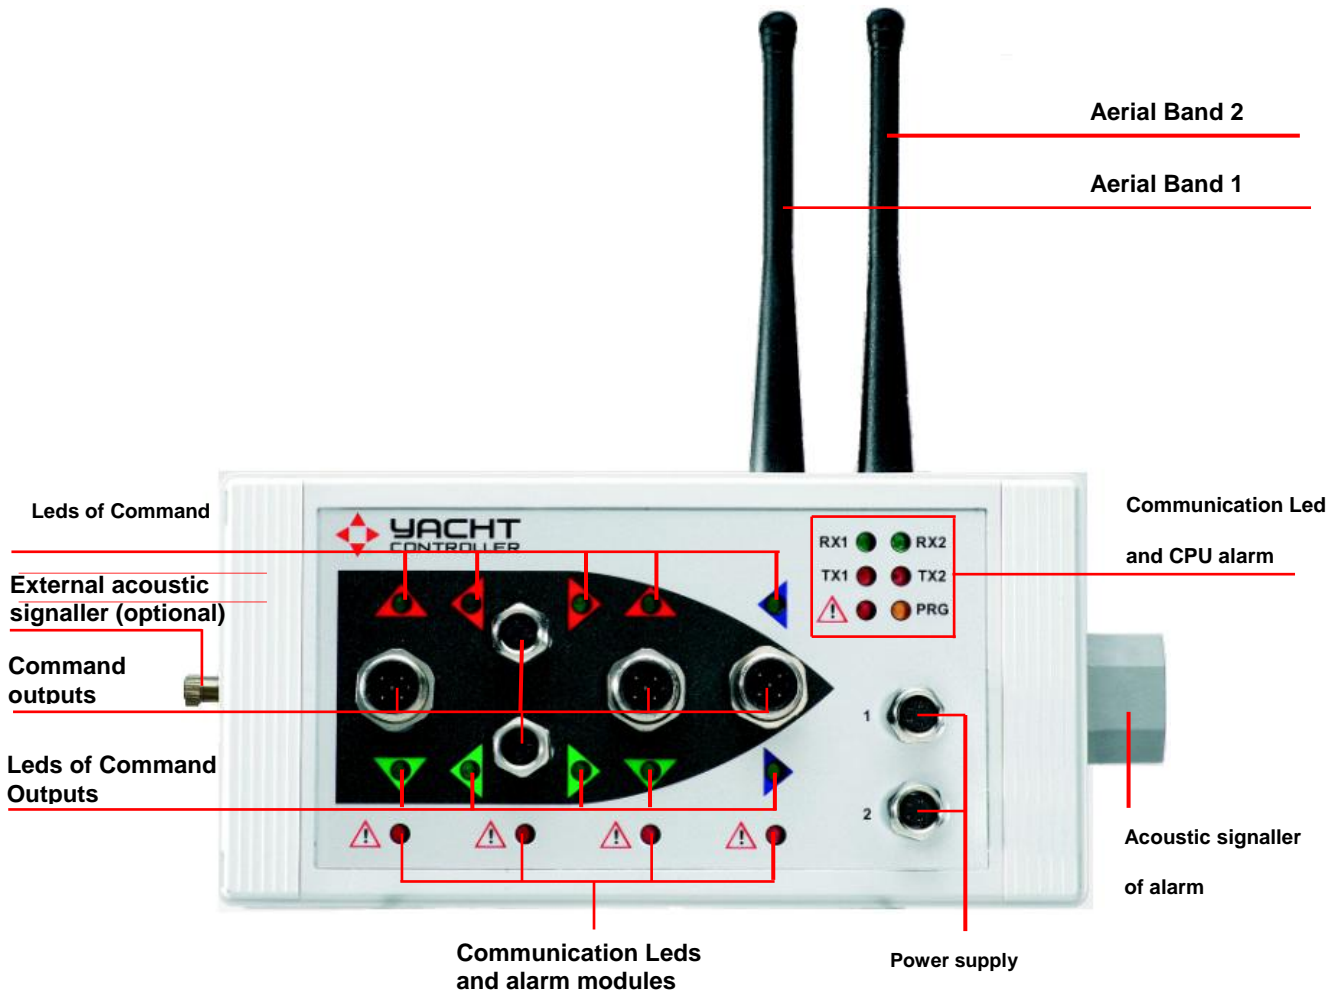

Figure 3: Receiver front
- Activate the receiver using the ON/OFF switch (installed on the boat). The activation is signalled by the lighting of the six leds of communication and alarm CPU (see figure 3) for a second.